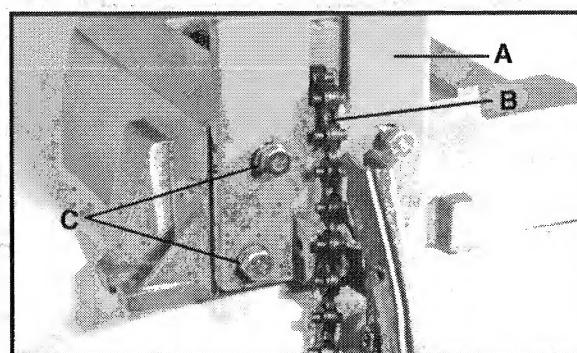
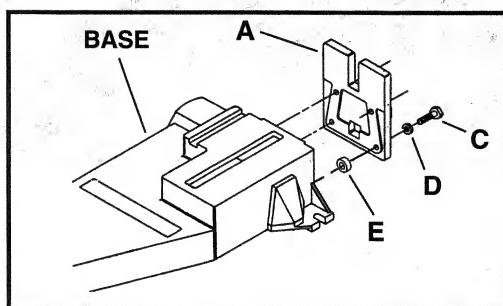

Fig. 4
Fig. 4A
4. Position clamp and fence assembly (A) Fig. 4, to the front of the base, and pass chain (B) up through slot in the work surface, as shown. Secure the clamp and fence assembly to the front of the base using the four  $\frac{5}{16}$ " x 1" long bolts, (C) Fig. 4A,  $\frac{5}{16}$ " lock washers (D) and  $\frac{1}{4}$ " thick spacers (E). Tighten bolts firmly.